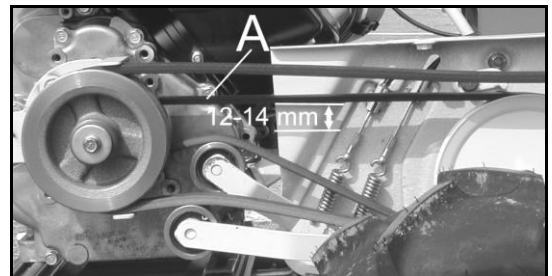

Figure 24
- Push the belt with a finger on (A, Figure 24) the belt must move from 12 to 14 mm. If the belt does not move accordingly, perform "tension wire" again.